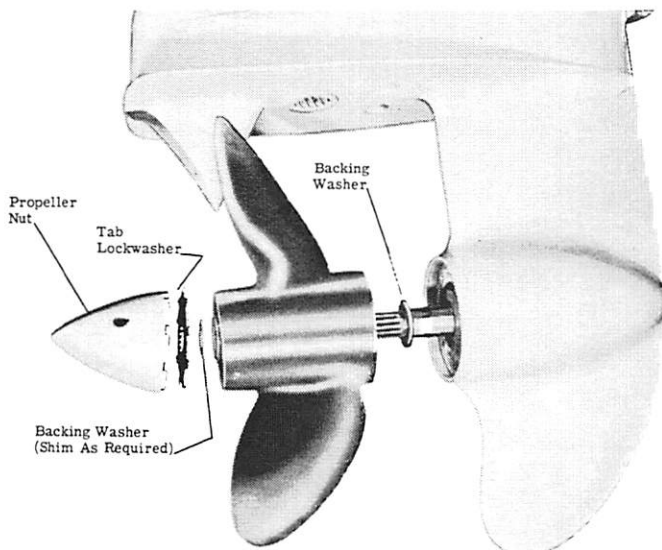

Figure 16. Installation of Propeller
2. Install 1/8" thick backing washer on propeller shaft. (Figure 16)